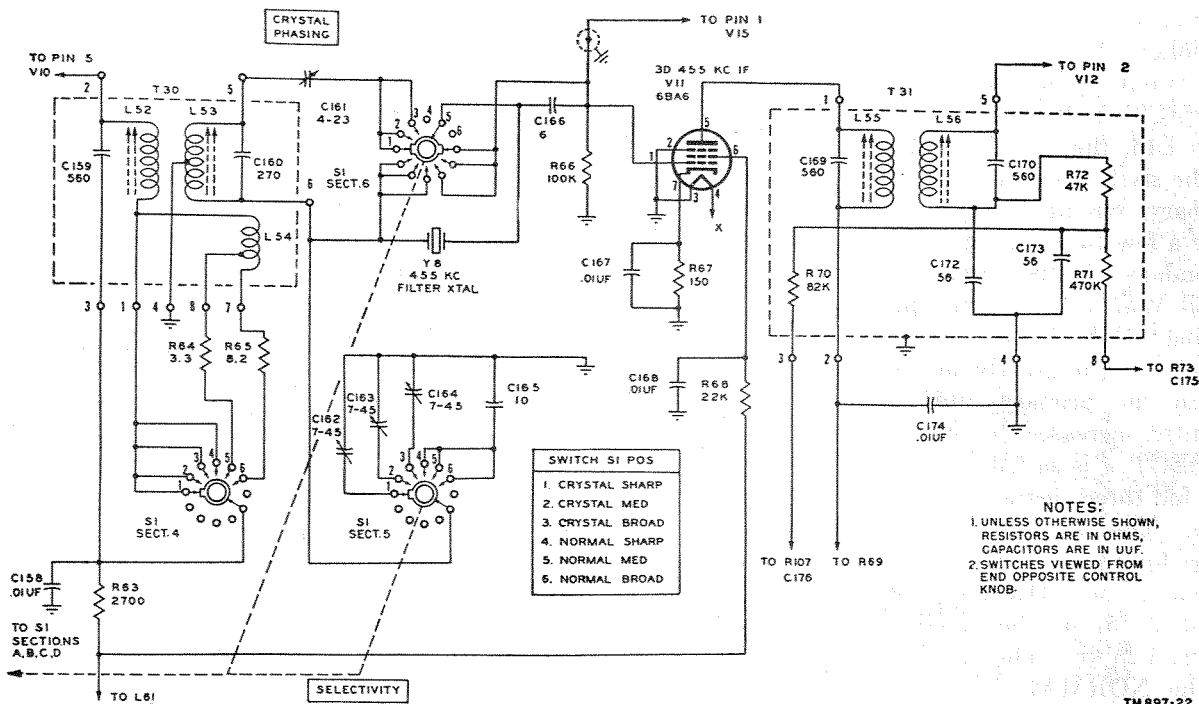

Figure 22. Radio Receiver R-274/FRR, functional diagram of 3d 455-kc i-f stage and crystal filter.
- (1) The 3d 455-kc i-f amplifier circuit is shown in figure 22. R66 is shown as the grid leak resistor for tube V11. Resistor R67 is the cathode resistor which keeps the total cathode current within safe limits and develops the bias under which the tube operates. Capacitor C167 is the cathode bypass which effectively grounds the cathode at intermediate frequencies. R68 is the screen voltage-dropping resistor, and capacitor C168 effectively grounds the screen of tube V11 at intermediate frequencies. The output of tube V11 goes to primary L55 of the 4th 455-kc i-f transformer T31. This primary circuit is resonated by capacitor C169. It is returned to +B through resistor R69, which with capacitor C174, forms a filter which prevents the signal in the plate circuit of tube V11 from getting into other circuits of the receiver.
- (2) The signal in the primary of transformer T30 is coupled inductively to the secondary which is resonated to 455 kc by capacitor C160. Note that this second-
b. Crystal Operation. Switch S1 SECT. 5 and SECT. 6 (fig. 22) determine whether the operation includes or bypasses the 455-kc filter crystal. The total voltage across the secondary (L53) of transformer T30 can be thought of as two separate voltages. The first is the voltage from ground to the top portion of L53. This voltage sends i-f current through capacitor C161, through the parallel combination of resistor R66 and the input capacities of tubes V11 and V15, and back to ground. The second voltage is that from ground to the lower end of L53. This voltage sends a signal through crystal Y8 through R66 in parallel with the input capacities of tubes V11 and V15, and back to ground. At signal frequencies different from its series resonant frequency, crystal Y8 acts like a pure capacity. Therefore, since the
two secondary voltages (in L53) are opposite in phase, the two currents through resistor R66 tend to cancel each other. In fact, when the phasing capacitor (CRYSTAL PHASING) C161, is adjusted accurately, these currents do cancel, and the voltage at the grids of tubes V11 and V15 is zero. Near series resonance, crystal Y8 does not behave like a high capacitive reactance but rather like a relatively low resistance. Therefore, the two currents will have a smaller phase difference as well as a considerable difference in amplitude, and some signal voltage will be developed in the input circuits of tubes V11 and V15. Because its Q is high, the losses in crystal Y8 are very small and therefore, the frequency range over which the voltage unbalance occurs is quite small. This is the reason for the high degree of selectivity of a crystal filter. To some extent, the equivalent resistance in the secondary circuit of transformer T30 affects the operation of the crystal filter. When this resistance is high (as it is when inductance L53 and capacitor C160 are *exactly* resonant at the series resonant frequency of crystal Y8), the selectivity curve is broadened, because the effective circuit Q is lowered. The bandwidth of the crystal filter circuit can be varied by the degree of mistuning of the secondary circuit of transformer T30. This is done to vary the bandwidth from 200 cycles to 500 cycles to 1,500 cycles as the selectivity switch is changed from CRYSTAL SHARP to CRYSTAL MEDIUM to CRYSTAL BROAD. When selectivity switch S1 SECT. 5 is in the CRYSTAL SHARP position (fig. 22), capacitor C162 is across part of the secondary of transformer T30. It is adjusted so that the secondary is mistuned just enough that the bandwidth is 200 cps. In the CRYSTAL MEDIUM position, capacitor C163 is in the circuit, adjusted to a different capacity, and the bandwidth is 500 cps. In the CRYSTAL BROAD position, capacitor C164 is in the circuit, and the mistuning of the secondary of T30 is very slight, therefore, the bandwidth is 1,500 cps. In actual operation of the receiver, the phasing control (capacitor C161) can be adjusted to give a high degree of rejection at a frequency slightly different from that at which maximum response occurs. Furthermore, the exact frequency at which this rejection occurs can be varied. This characteristic can be used to reject an undesirable signal which is at a frequency close to the frequency of the desired signal.
fied equivalent of the 3d 455-kc i-f amplifier circuit (crystal filter), together with SECTS. 5 and 6 of S1, when the selectivity switch is in NORMAL SHARP position, can be pictured by considering all the sections of switch S1 to be placed in position 4 (NORMAL SHARP) (fig. 22). The voltage in the lower part of L53 is sent to the grid of tube V11 through capacitor C166. Capacitor C166 has a low value (6 uuf (micromicrofarad)) so that the gain under noncrystal conditions will be in the proper proportion to the gain under crystal operation. Capacitor C165 replaces variable capacitors C162, C163, and C164 which were in the circuit for crystal operation.